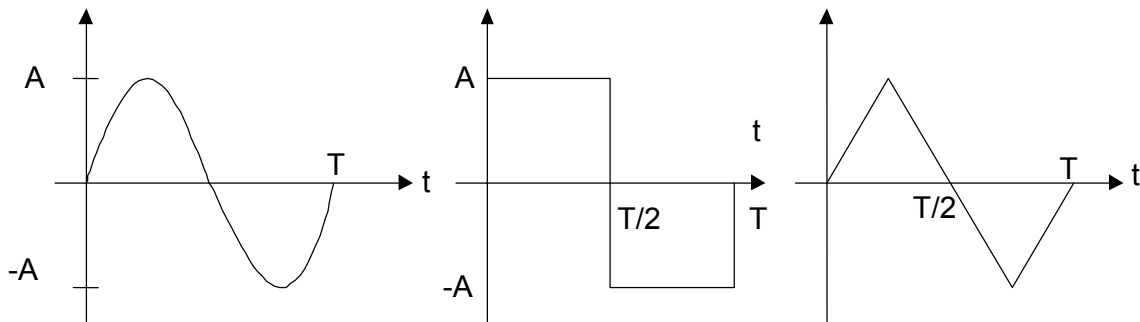

Figure 1
- 1- For the periodic signals shown in Figure 1, find:
- 4- Adjust the DC offset of the signal generator to zero, so that the signal you obtain on the oscilloscope has no DC value (similar to the signals of Figure 1). This is done by first setting the oscilloscope control to ground then moving ground level to the middle of the screen).